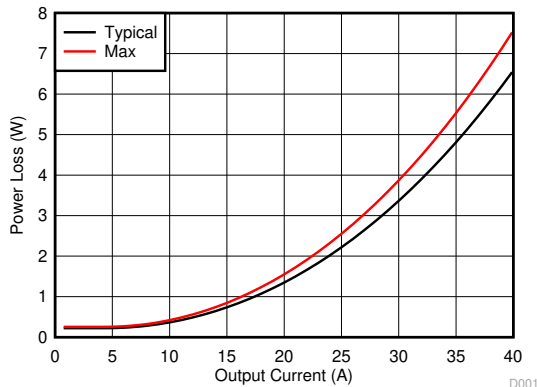

Figure 4-1. Power Loss vs Output Current
The typical power block system characteristic curves (Figure 4-1 through Figure 4-6) are based on measurements made on a PCB design with dimensions of 4in (W) × 3.5in (L) × 0.062in (H) and 6 copper layers of 2oz copper thickness. See Section 5 for detailed explanation. $T_J = 125^{\circ}\text{C}$, unless stated otherwise.
図 4-1 plots the CSD88599Q5DC power loss as a function of load current. The measured power loss includes both input conversion loss and gate drive loss.
In the example below, we show how to achieve this for the temperatures $T_C = 124^{\circ}\text{C}$ and $T_B = 120^{\circ}\text{C}$. First we draw from 40 A on the Y-axis at 124°C to 120°C on the X-axis. Then, we draw a line up from where this line crosses the T_{χ} line to see that this line intercepts the SOA at 34A. Thus we can assume if we are measuring a PCB temperature of 124°C , and a top case temperature of 120°C , the power block can handle 34A RMS, at the normalized conditions. At conditions that differ from those in Figure 4-1, the user may be required to make an SOA temperature adjustment on the T_{χ} line, as shown in the next section.